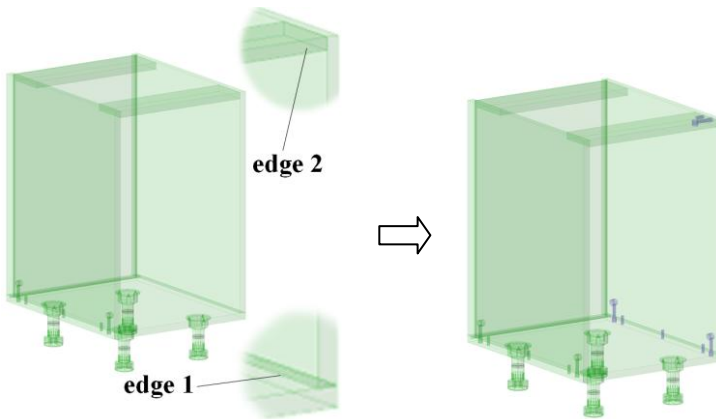

Fig. 3.94 Fastener projection
**replace fasteners #P / Select edge of base part:* Specify an edge on which the Fastener is being projected, see fig. 3.94, edge 1
Select edge of base part: Specify an edge on which the Fastener is being projected, see fig. 3.94, edge 2.
Note. The Fastener projection which is out of a Part edge is not drawn in 3D-model and not calculated in the quotation, see fig. 3.94, edge 2 (only one minifix and one dowel from Fastener group are present in 3D-model)